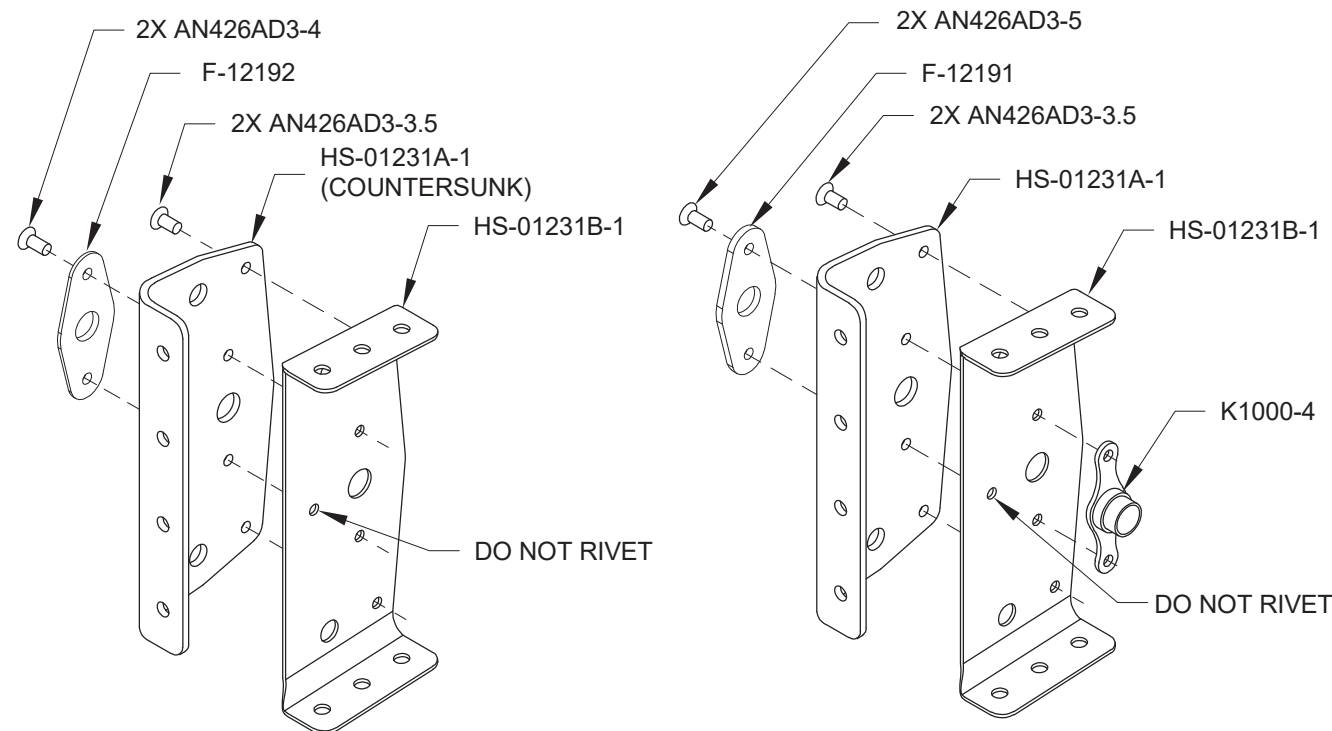

FIGURE 2:
Step 4: Rivet together two Inboard Hinge Bracket Assemblies using the parts shown in Figure 2.